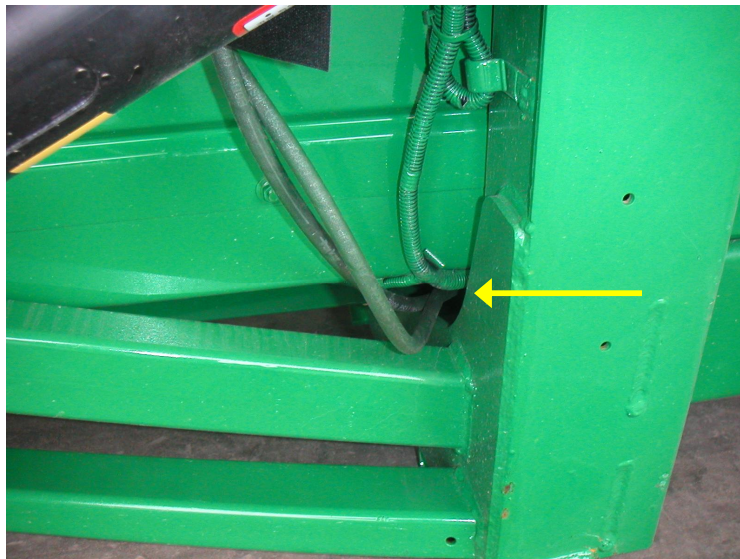

Figure 9
5. Route right-hand hose up through opening. (See **Figure 9**)